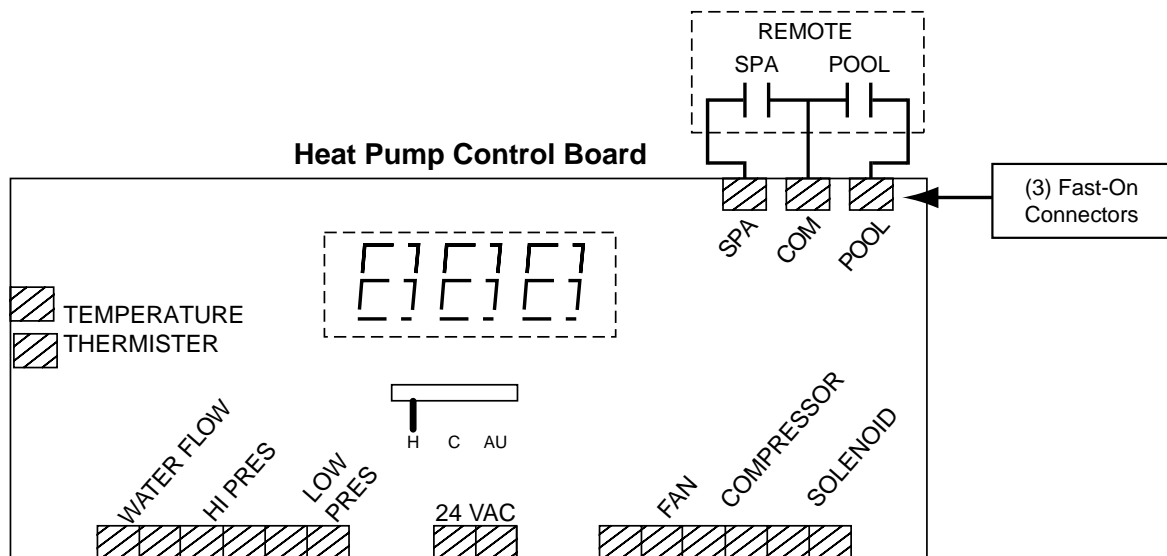

Figure 12.
9. Connect the cable from the IntelliTouch or EasyTouch Load Center to the heat pump remote control terminals using 1/4 inch "Fast-On" Spade connectors, see Figure 12, previous page.